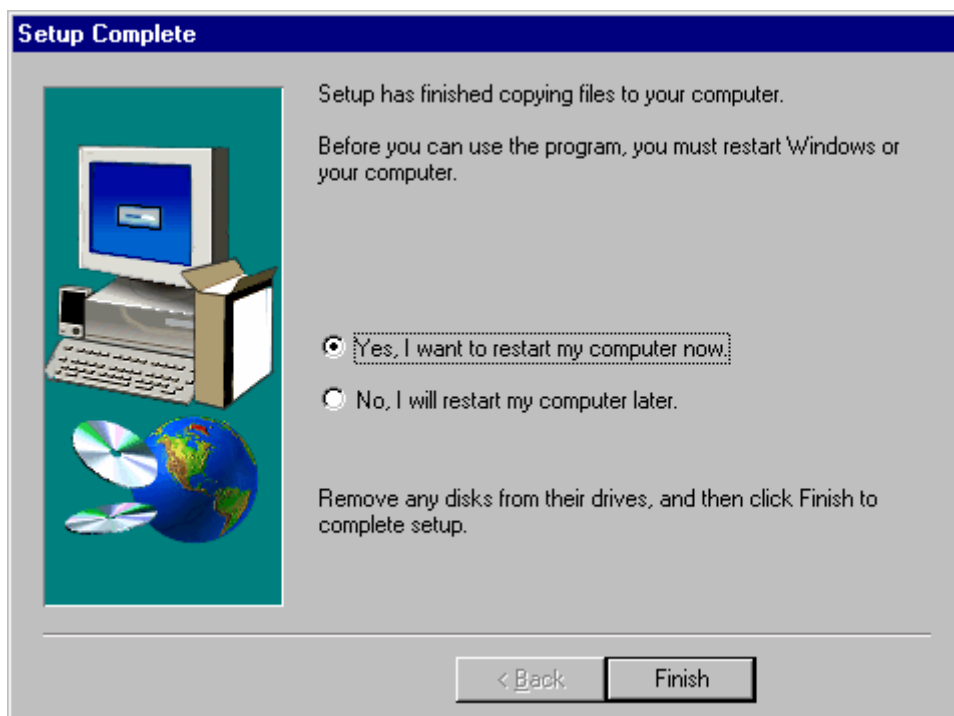

Figure 16 Installation Complete
4. When the installation of files is finished, the window shown in Figure 16 appears. Choose to restart the computer now or later. Click **Finish** and the setup is complete. Terminate the Explorer program and remove the MRU USB memory stick for the local PC.